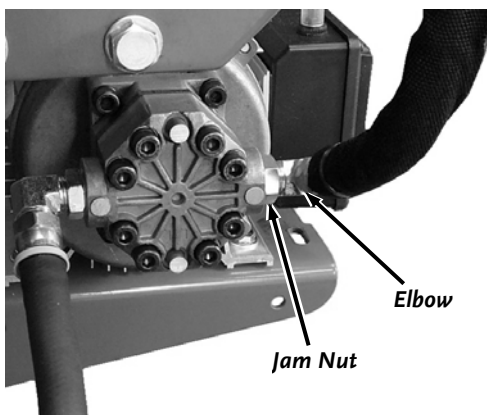

Figure 6
1. Loosen the Jam Nut with a 24mm Wrench and back it off until it stops (**Figure 6**).